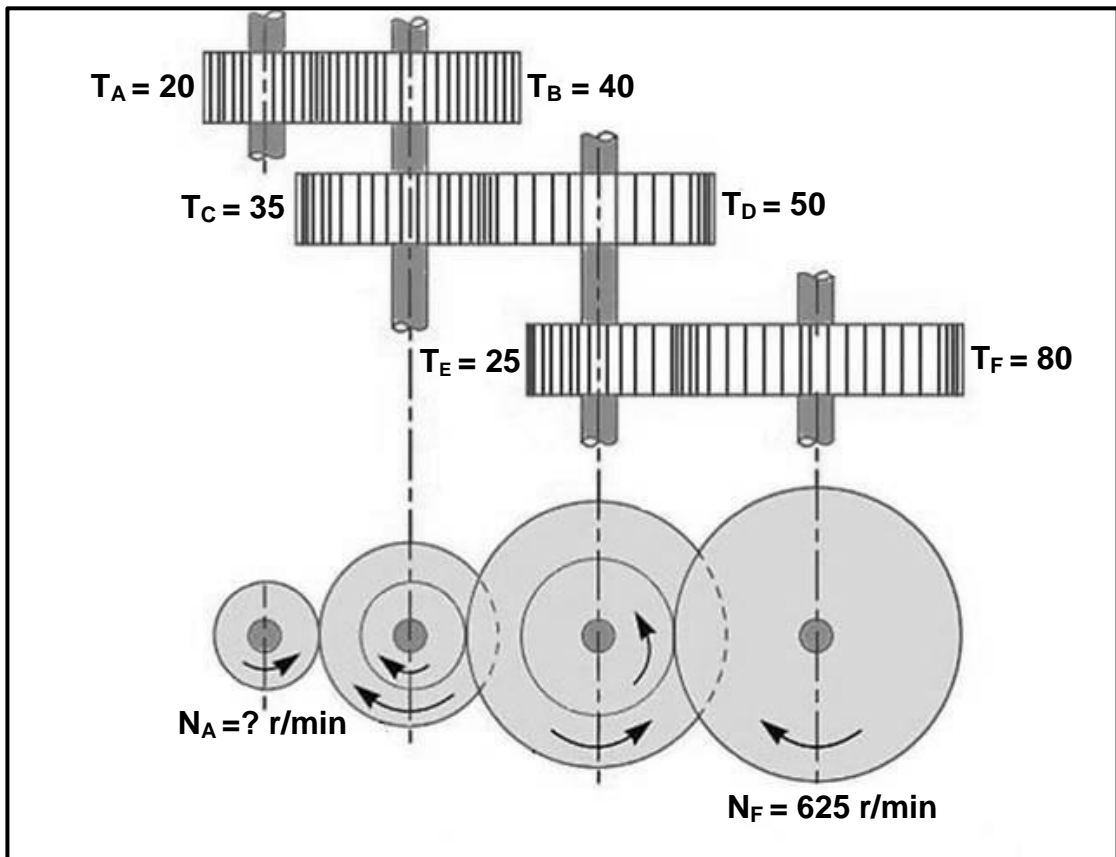

FIGURE 11.5
11.5 FIGURE 11.5 below shows a gear drive system. The number of teeth for each gear is shown in the diagram. Driver gear A is fixed on the input shaft. The rotational frequency of the output shaft is 625 r/min. Answer the questions that follow.
11.5.1 Identify the type of gear drive system shown in FIGURE 11.5. (1)